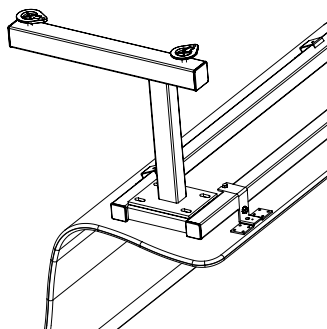

fig. 2
3. Fasten the frame to seat using front seat hook and elbow bolts (fig. 2). Finger tighten nuts.